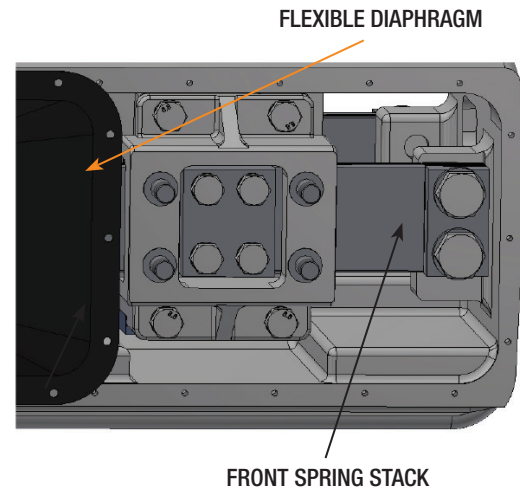

Figure 12
1. Remove diaphragm clamp and rubber diaphragm from front of unit—**Parts 7 and 8 in Parts List** (See **Figure 12**).